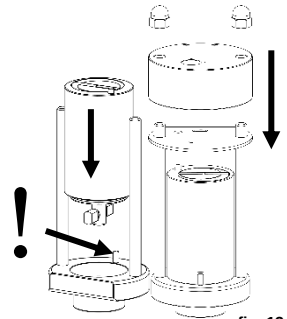

fig. 13
- Put-on the steering disc (check fixation!) and then valve head (fig. 13).